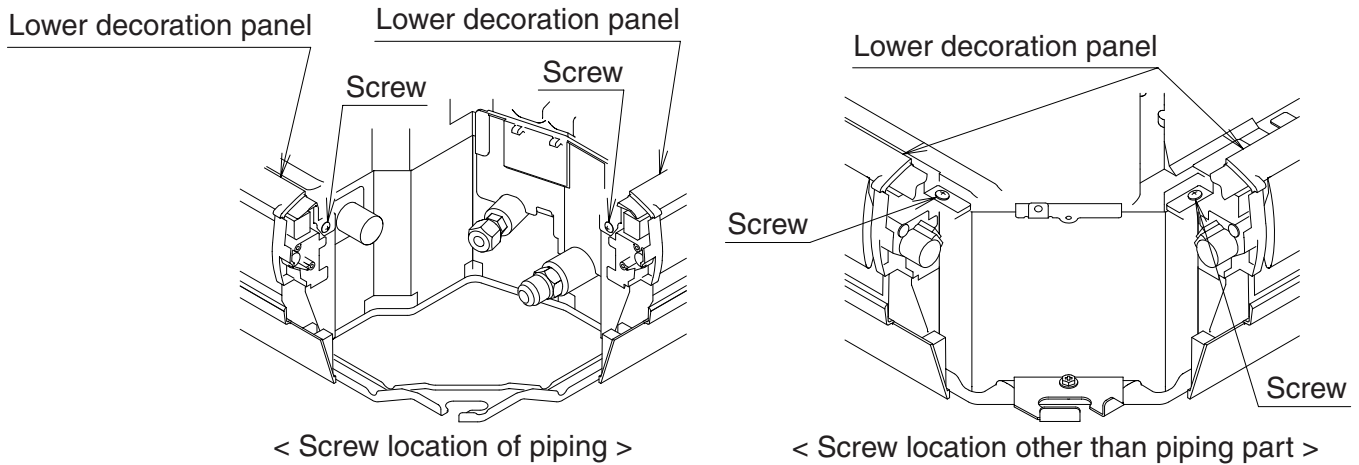

Fig.14
- * If the blocking material is difficult to insert, loosen the left and right screws of the lower decoration panel and insert it. Make sure to tighten the loosened screws again after the blocking material is fixed. **(Refer to Fig. 14)**